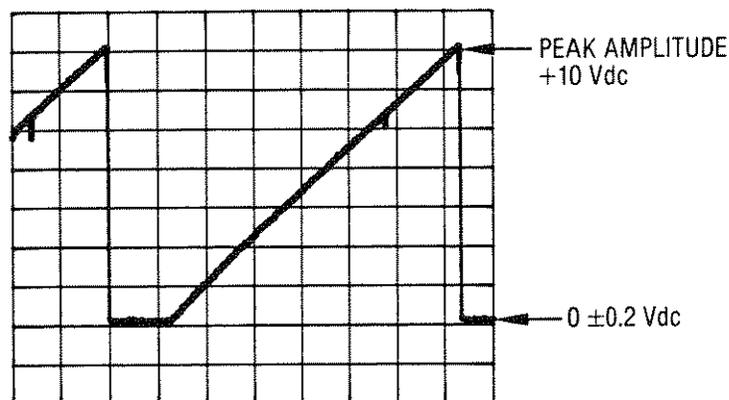

Figure 5-45. Sweep Out Waveform
8. Set the oscilloscope's trigger to channel 2 and set channel 2 vertical input for dc coupling. Adjust the oscilloscope for the display shown in Figure 5-45.